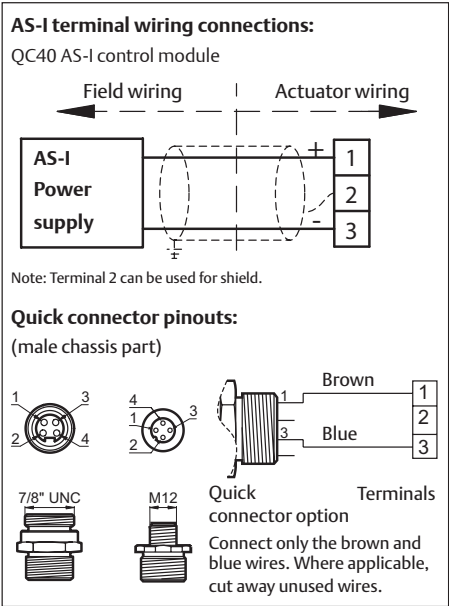

Fig. 4.3 Terminal connections and quick connector pinouts
- 3 Make the electrical connections as shown in figure 4.3.